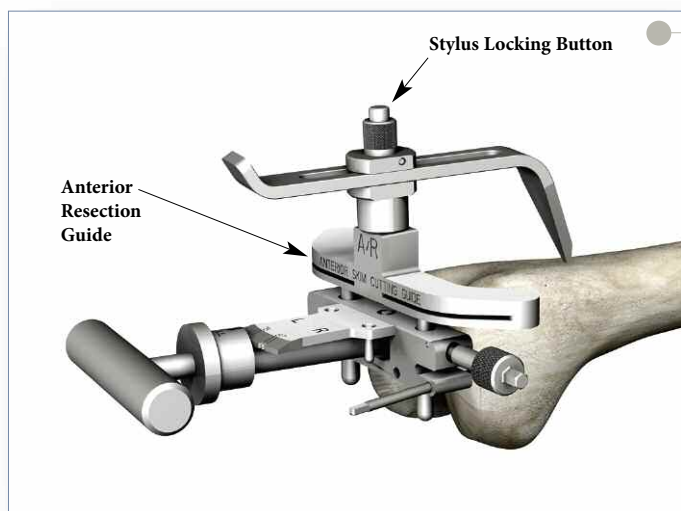

Figure 13
- ▶ Release the button to lock the stylus in place. Insert the Anterior Resection Guide into the two anterior holes on the Femoral Alignment Guide (**Figures 13 and 14**).